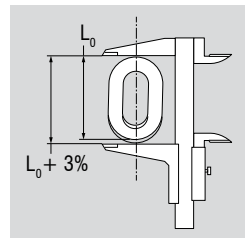

Fig. 13.2: Impermissible wear and tear or elongation on a chain link
- Impermissible wear and tear or elongation on a chain link e. g. when the rated dimension of the inner length is exceeded by 5%. This corresponds to an outer elongation of 3% (Fig. 13.2)